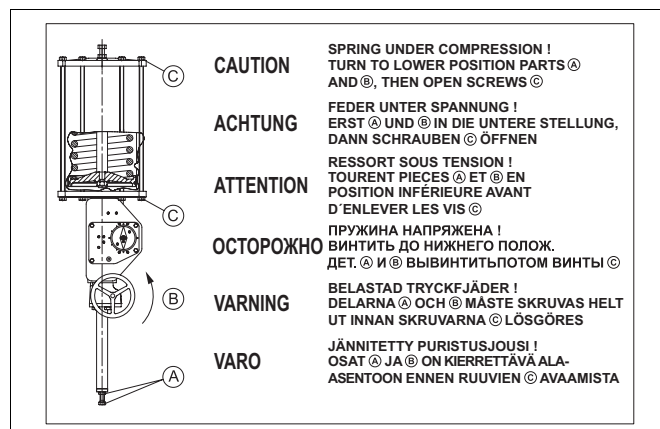

Fig. 28 B1JARR actuator warning plate
The cylinder has a warning plate (43). When servicing the unit, check that the plate is in place and legible, see Fig. 28. Also check that the cylinder has the arrow sticker indicating the spring operating direction.